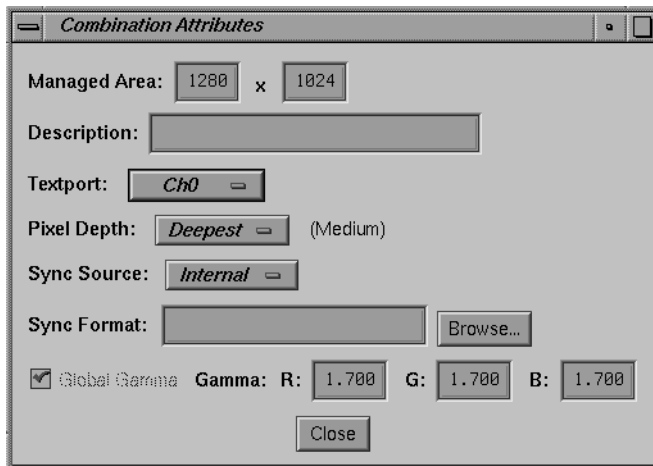

Figure A-5 Combination Attributes Window
1. Click *Edit globals* in the main window's bottom right corner. The Combination Attributes window appears, as shown in Figure A-5.